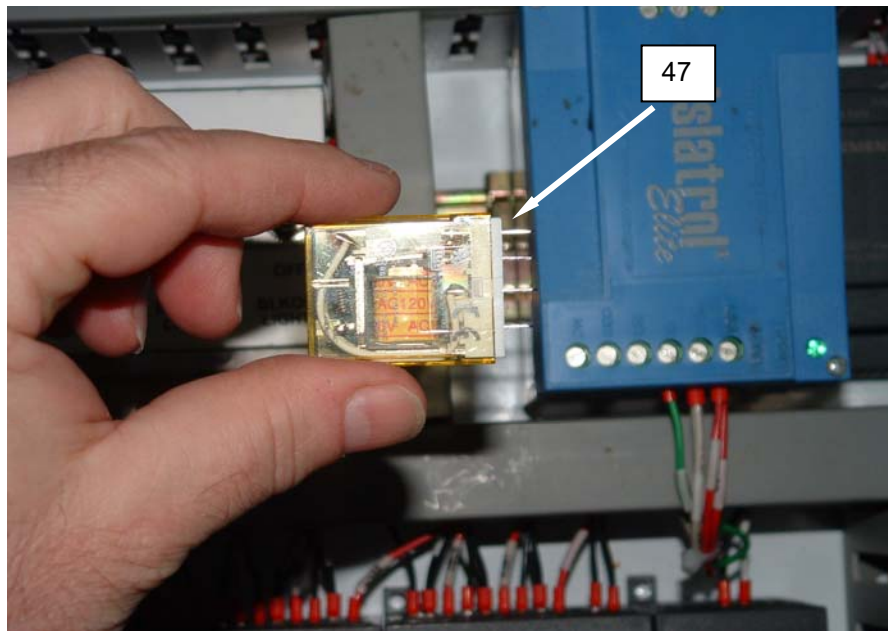

Figure 22. Test a Control Relay.
3. Locate and remove suspected malfunctioning control relay (**Figure 22, Item 47**) and replace with a known good relay.